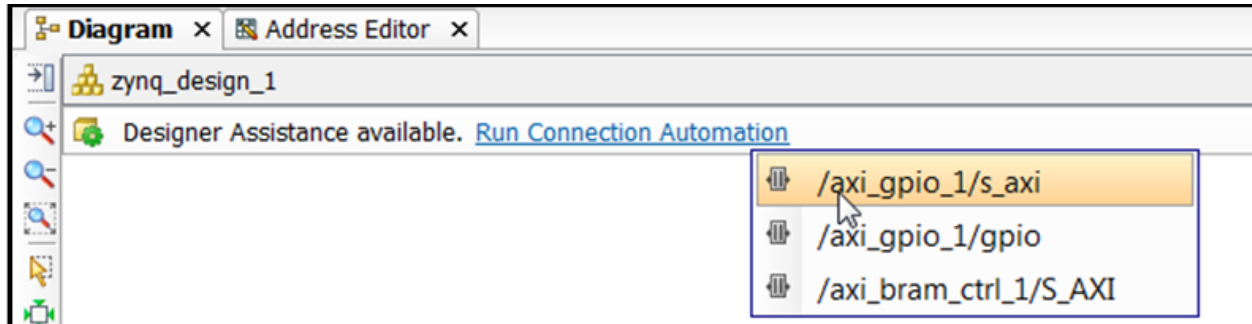

Figure 13: Run Connection Automation
1. Select **Run Connection Automation** to connect the BRAM controller and GPIO IP to the Zynq PS and to the external pins on the ZC702 board (Figure 13).